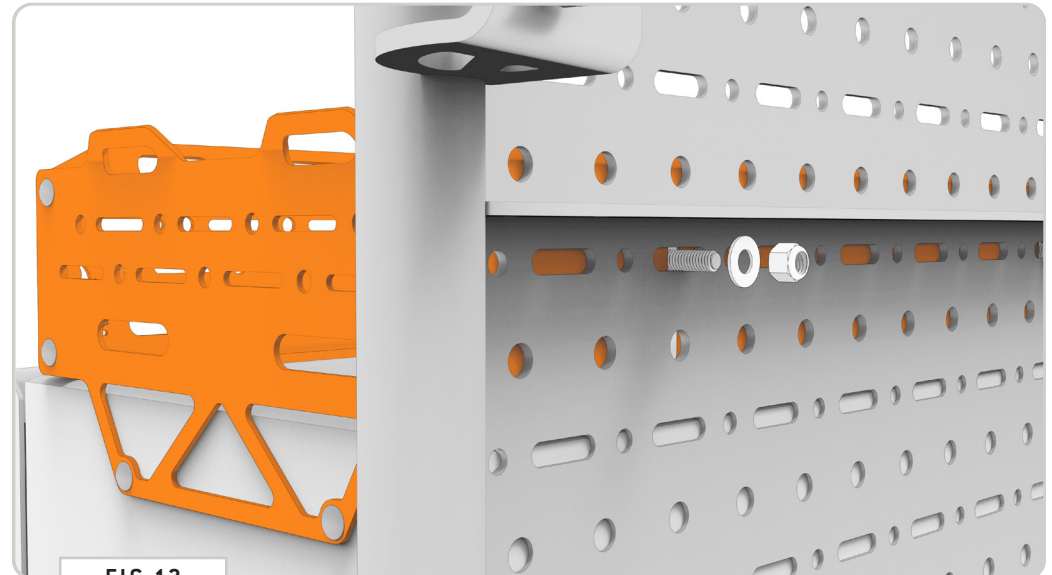

FIG 12
3.6 Loosely Secure Box Topper to Platform (Optional): Reaching around the platform, attach (1ea) 3/8" Flat Washers to the bolts and loosely thread on (1ea) 3/8" Nylon Lock Nuts (FIG 12).